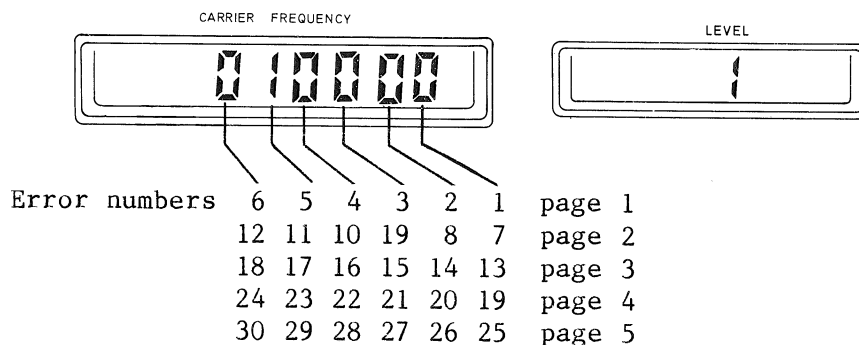

Fig. 5 SRQ mask setting display
29. Select SECOND FUNCT mode followed by the numeral 4. The SRQ mask allows an instruction to be made for the instrument not to request service over the GPIB for particular conditions. 24 possible error conditions are listed in the GPIB functions paragraphs although provision has been made for 30. At switch on all error numbers previously masked are automatically reset to the unmasked state i.e. '0' and displayed as a 6-bit binary number in the frequency display. To give access to error numbers 1 to 30 inclusive requires five pages. At switch on, page 1 is automatically selected and error numbers 1-6 are represented from right to left as shown in Fig. 5. To access error numbers 7-12 press the '.' (decimal point) key, this selects page 2 of 5, pressing this key again selects 3 of 5 to represent error numbers 13-18 etc. To reselect page 1 after selecting page 5, further press the decimal point key. The page number currently selected is shown in the level display.
30. Binary entry is entered via the keyboard and ones or zeroes rotate in from the right. Enter a bit '1' to mask the required error(s). When these are in position press the STORE key to terminate the entry. Fig. 5 shows the mask set to ignore a GPIB bus error (Error No. 05).